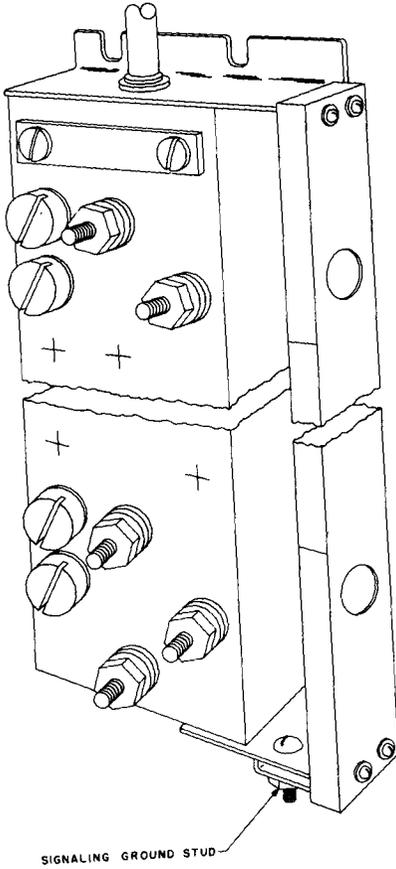
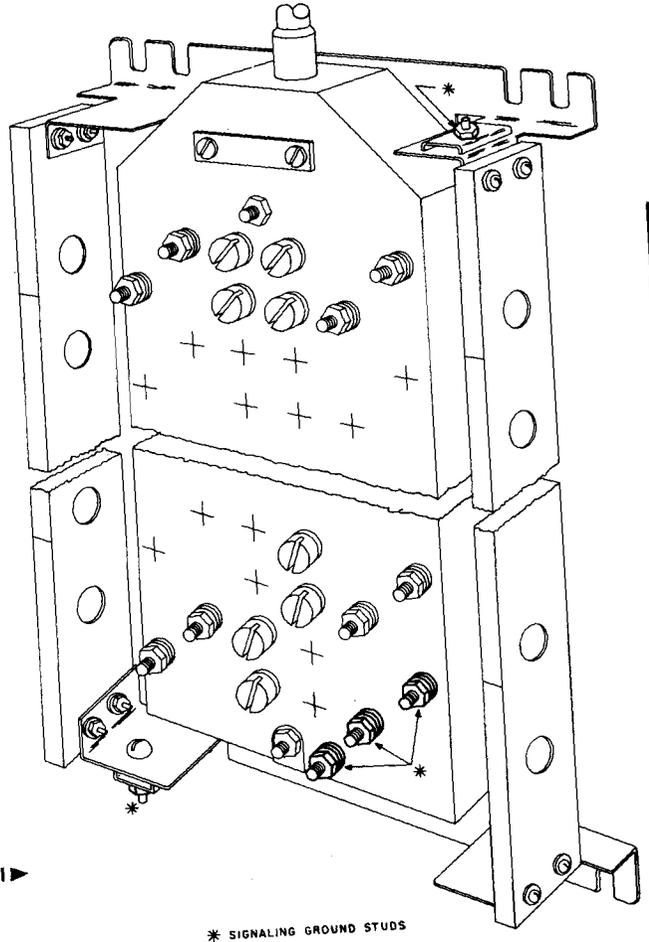

Fig. 15 - The 1A4A Terminal Block Showing Signaling Ground Stud
Fig. 16 - The 1A4A-51 Cable Terminal
9.02 Signaling grounds on 1A4A (10-, 16-, and 26-pair terminal blocks) may be obtained from ground screw on fanning strip bracket shown in the lower right-hand corner of Fig. 15. Three additional ground lugs are provided on 51-pair terminal block, see Fig. 16.